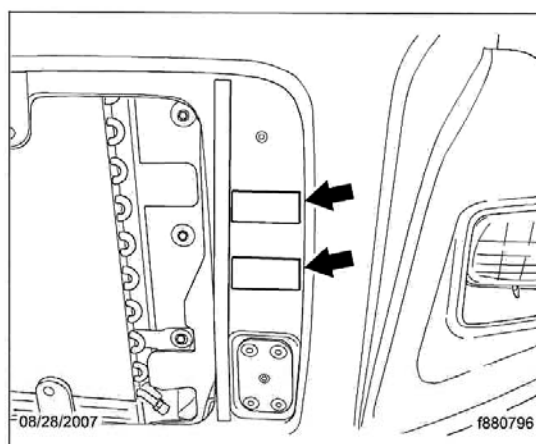

Fig. 6, Two Front Plate Assemblies Installed
10. Install two pieces of the front plate assembly A17-17602-000 by lightly tapping them with a mallet through the holes drilled in the previous step. See Fig. 6.